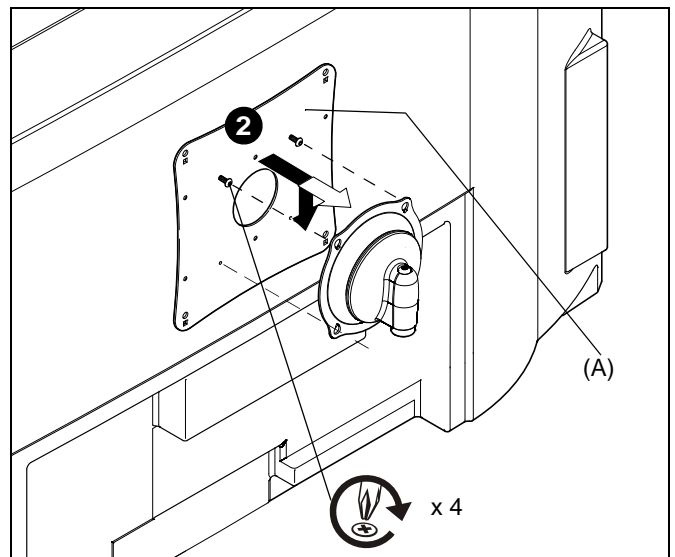

Figure 3
1. Start two Phillips pan head screws into top mounting holes on interface bracket (A). (See Figure 3)
2. Align two screws in interface bracket (A) with upper mounting holes in Centris cup and lower display until screws are seated in lower area of teardrop mounting holes. (See Figure 3)